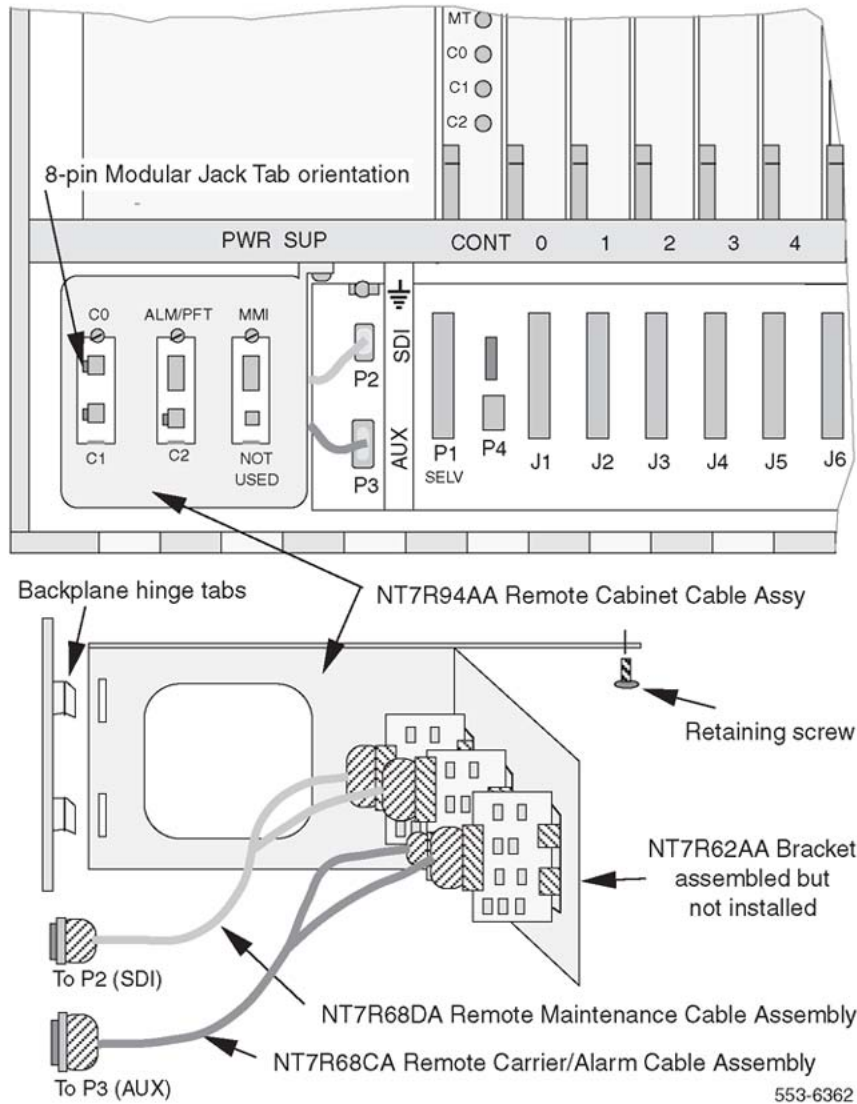
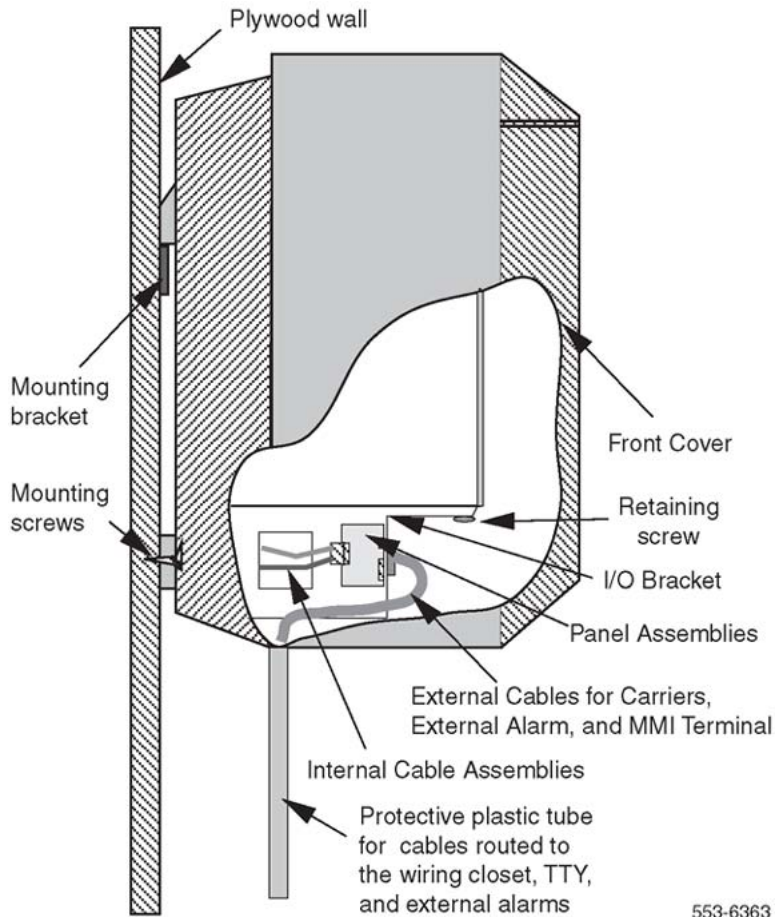

Figure 17: Carrier cable routing for the Carrier Remote IPE cabinet
Figure 18: Carrier cable routing for the Carrier Remote IPE cabinet
The NT1P70/NT1P60 main Carrier Remote IPE cabinet is equipped with a I/O bracket assembly used in Fiber Remote IPE. This bracket must be removed and the NT7R94AA Remote Cabinet Cable Assembly must be installed in its place. Refer to Figure 17: Carrier cable routing for the Carrier Remote IPE cabinet on page 96.
1. Align the two bracket holes with the two hinge tabs as shown in Figure 17: Carrier cable routing for the Carrier Remote IPE cabinet on page 96.
Figure 17: Carrier cable routing for the Carrier Remote IPE cabinet on page 96 shows an installed and connected Remote Cabinet Cable Assembly. The cables are connected to P2 and P3 located on the cabinet backplane to provide connections to carrier links, the SDI/MMI terminal or TTY, the PFTU, and the customer external alarms (alarms 1 and alarm 2 only).
See Figure 17: Carrier cable routing for the Carrier Remote IPE cabinet on page 96 and Figure 18: Carrier cable routing for the Carrier Remote IPE cabinet on page 100.
Figure 18: Carrier cable routing for the Carrier Remote IPE cabinet on page 100 shows the Carrier Remote IPE cabinet and the carrier cable connecting carrier links to the cabinet.